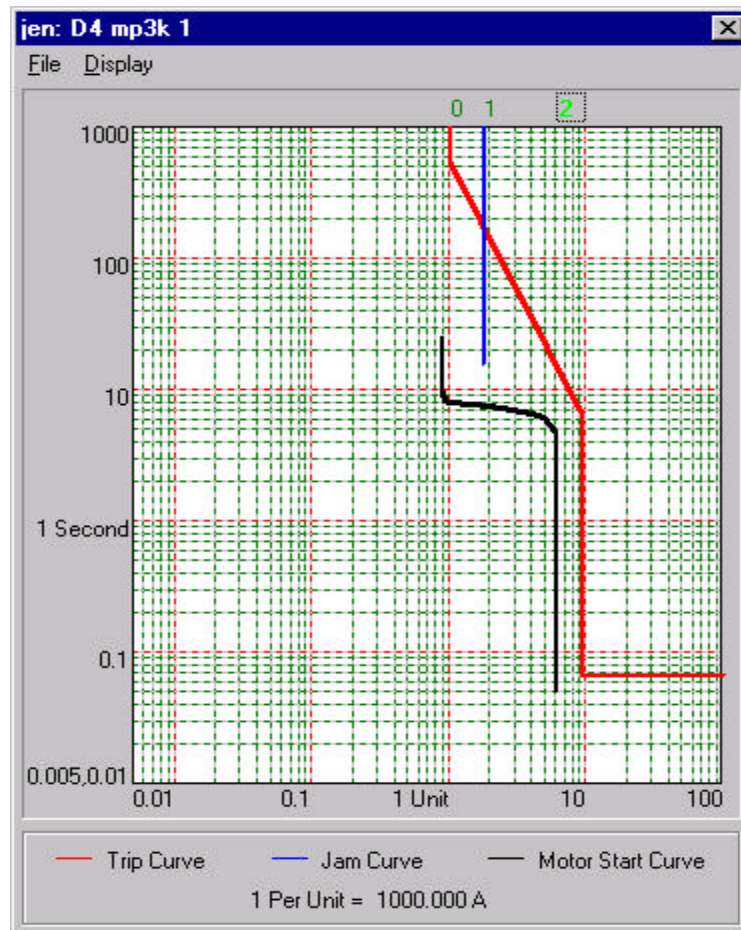

Figure 5. Motor Start Profile from C-H PowerPort and PowerNet Software
- **START** records information on the last 4 starts in nonvolatile memory. Detailed information about the motor starting currents, unbalanced conditions and run transition data is logged with date and time. The MP-3000 also records a Motor Start Profile record for each start that can be viewed with software from Cutler-Hammer. Figure 5 is an example of the Start Profile along with the MP-3000 Overload, JAM and IOC trip characteristics overlade for application review.